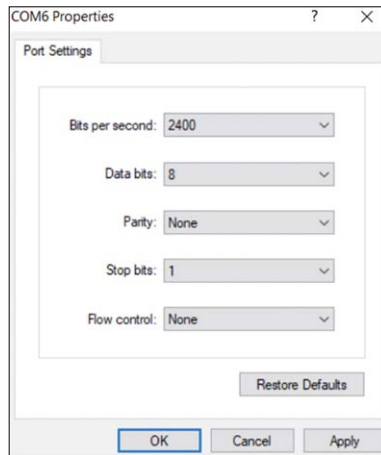

Figure 11.6: Setting the communication parameters.
- Set the communication parameters, e.g.: baud rate to 9600, 8 data bits, parity None, 1 stop bit, None flow control (Figure 11.6) and click **OK**.